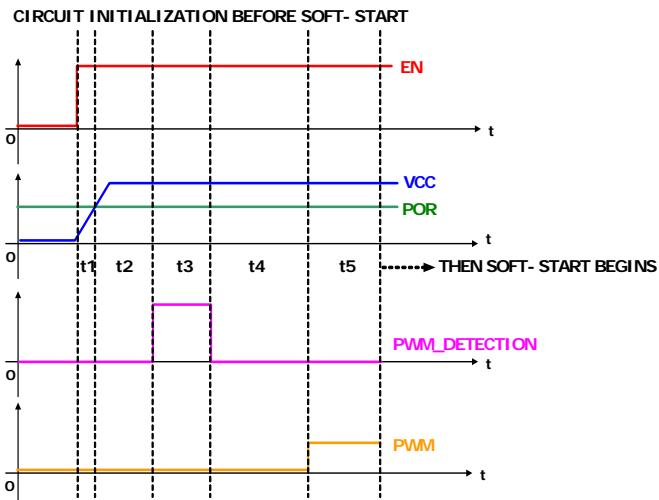

FIGURE 14. CIRCUIT INITIALIZATION BEFORE SOFT-START
Figure 14 shows the ISL78220 internal circuit functions before the soft-start begins.
As shown on Figure 14, there are 5 time intervals before the soft-start is initialized, they are specified as  $t_1$ ,  $t_2$ ,  $t_3$ ,  $t_4$  and  $t_5$ , respectively. The descriptions for each time interval are as follows:
**Time  $t_4, t_5$ :** Same as the  $t_4, t_5$  in Figure 14, soft-start has not started yet. See “Operation Initialization Before Soft-Start” on page 13 for a detailed description.
**Time  $t_4, t_5$ :** Same as the  $t_4, t_5$  in Figure 14, soft-start has not started yet, see “Operation Initialization Before Soft-Start” on page 13 for detailed description.